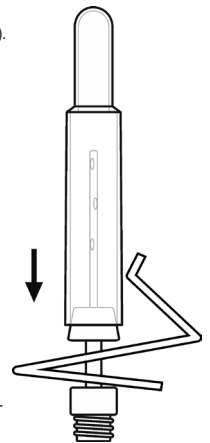

Fig. 3: test anterior chamber on injector nozzle (example illustration)
- Attach the test anterior chamber to a suitable injector nozzle (Fig. 3).
- Connect the injector nozzle to the charging trolley (Fig. 3):